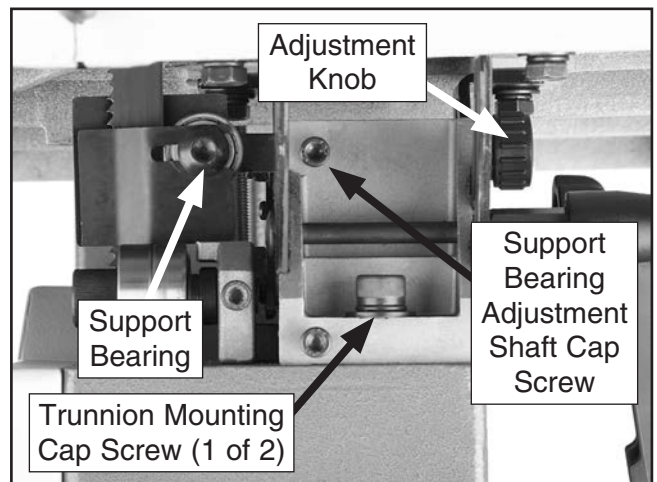

Figure 23. Lower support bearing controls.
3. Familiarize yourself with the lower support bearing controls shown in **Figure 23**.